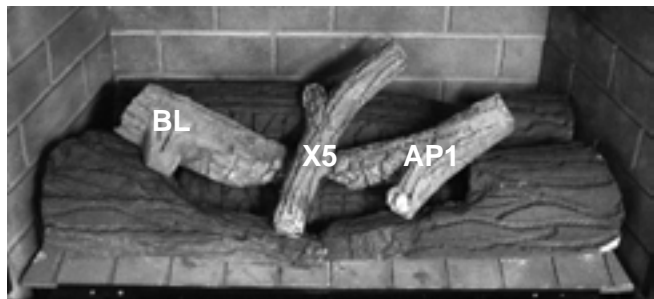

Figure G-3
6. Position the 'BL' and 'AP1' logs over the base logs, as shown in Figure G-3.
7. Position the remaining top log 'X5' in place as shown in Figure G-3.